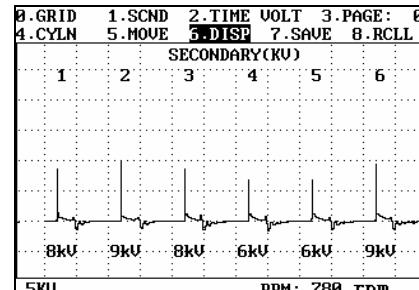

Fig.4-20
**Parade wave:** It is to display the waveforms of several cylinders in parade mode, as shown in Fig.4-20.